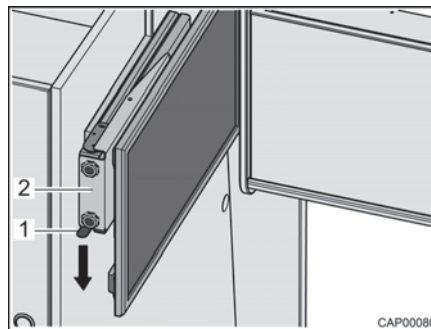

Fig. 57 Pull-out with flat screen
- Press catch spring (Fig. 57,1) downwards and pull pull-out (Fig. 57,2) with flat screen out horizontally towards the centre of the vehicle.
- Push the pull-out (Fig. 57,2) with flat screen in horizontally as far as it will go. The catch spring (Fig. 57,1) engages audibly.